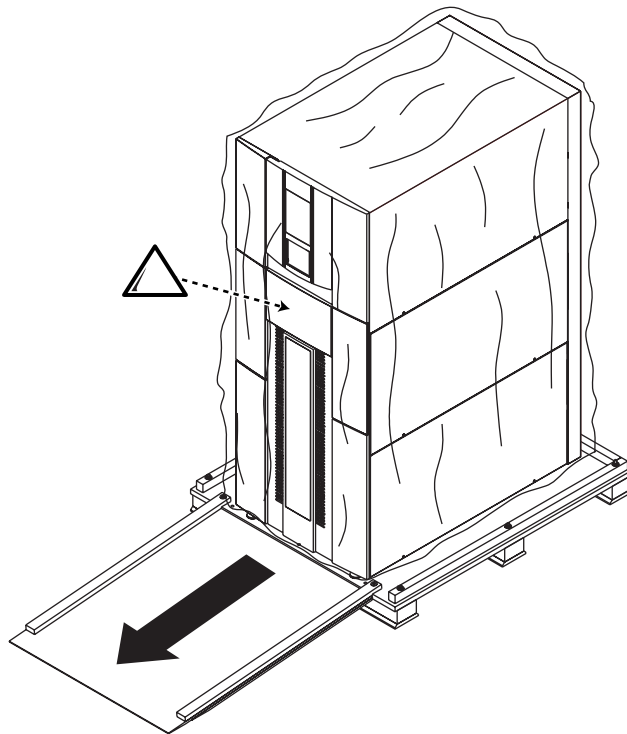

Figure 12: Rolling the library down the ramp
2. Carefully roll the library down the ramp and guide it to the installation site (see Figure 12).